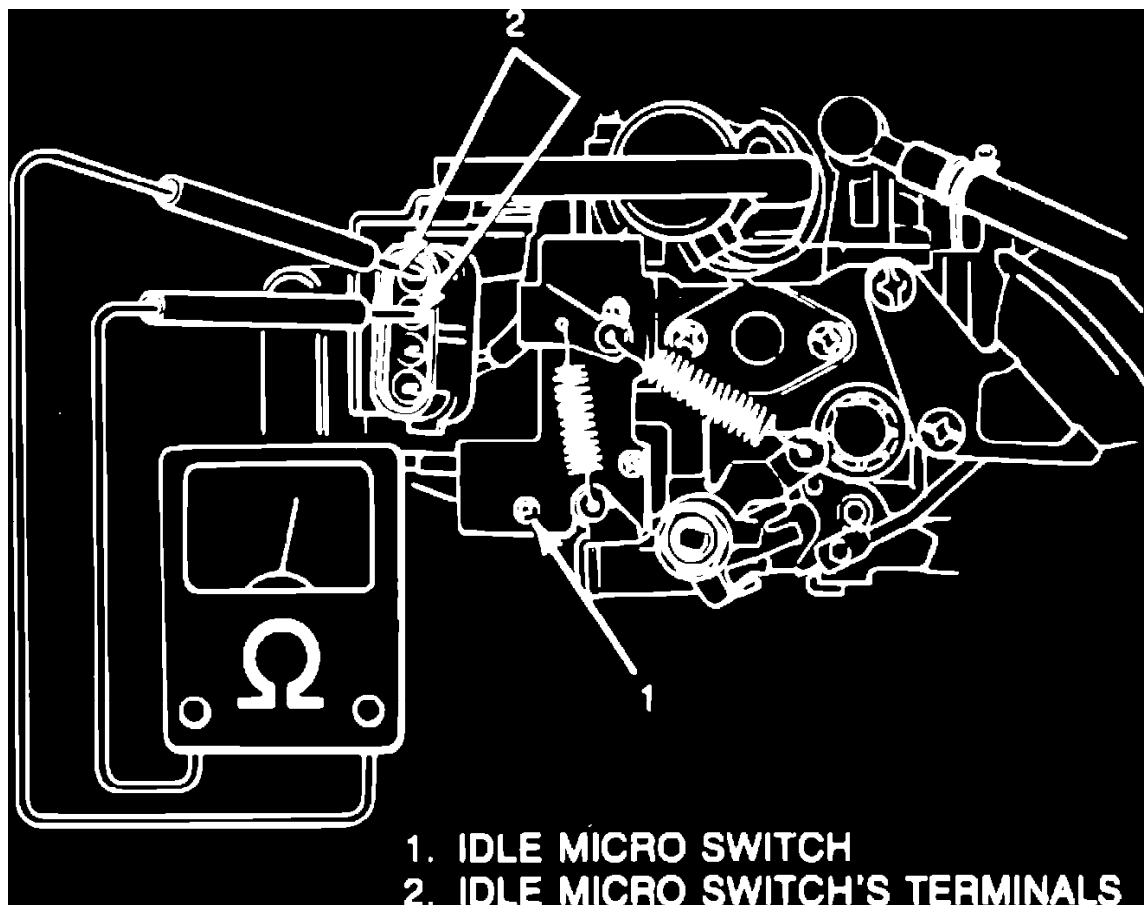

Fig. 10 Idle micro switch test connections
2. Disconnect microswitch electrical connector, **Fig. 10**, and connect an ohmmeter to switch terminals.